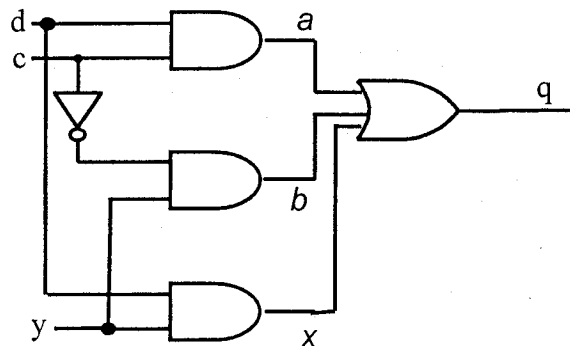

Figure 4c Combinational circuit to be tested
- d) Explain how the circuit of figure 4c exhibits an undetectable stuck-at-0 fault on signal x (3 marks)
- e) Illustrate a modification which makes the circuit of figure 4c testable. (2 marks)